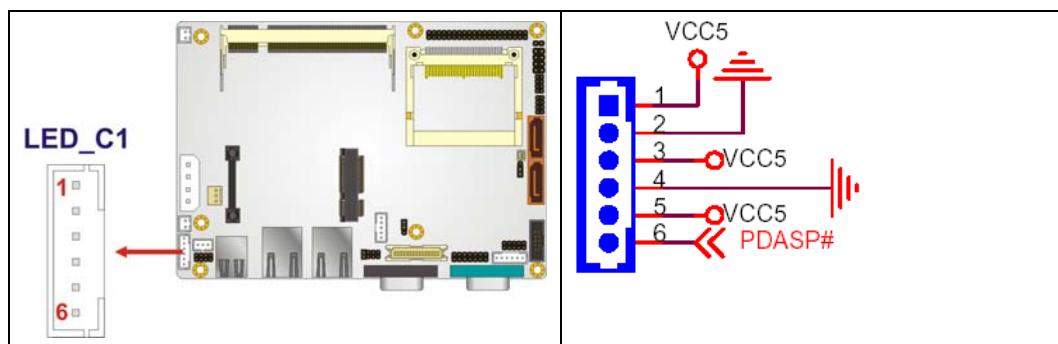

Figure 3-6: LED Connector Locations
- CN Location:** See **Figure 3-6**